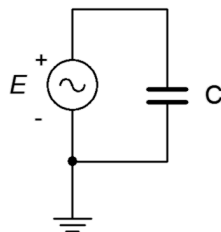

Figure 2.7
12. Draw the voltage and current waveforms for the circuit of Figure 2.7 if E is a one volt peak sine at a frequency of 10 kHz and $C = 3.3 \text{ nF}$.